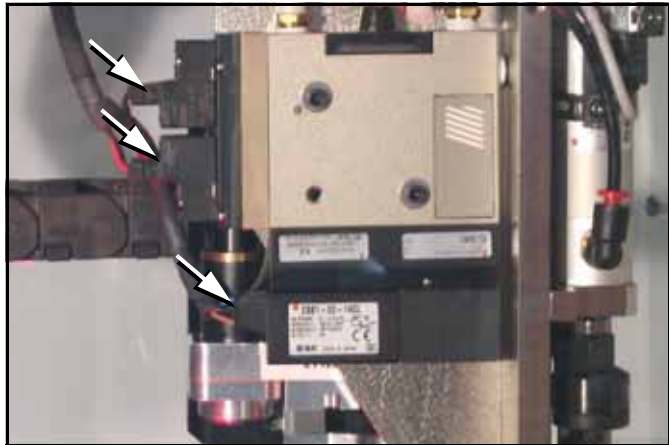

Figure 4-22: Three electrical connections on the Vacuum Generator.
- 1c. Check gantry wiring harness plug connections and make sure that they are secure. See Figure 4-22.